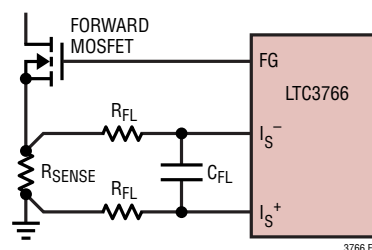

Figure 11. Using a Current Sense Resistor
When using a current sense resistor, the I_S^+ and I_S^- pins operate differentially and the maximum peak current threshold is approximately 75mV. Normally, the current sense resistor is placed in the source of the forward MOSFET, as shown in Figure 11. Depending on PCB layout and the shielding of the traces going to the I_S^+ and I_S^- pins, it is sometimes necessary to add a small amount of filtering as shown in Figure 11. Typically, values of $R_{FL} = 100\Omega$ and $C_{FL} = 200\text{pF}$ to 1nF will provide adequate filtering of noise pickup without substantially affecting the current loop response.
1. The accuracy of the current sense resistor and/or current sense transformer. For resistor sensing, the accuracy of the current sense resistor is normally 1%. For sense resistors less than $2m\Omega$, however, the parasitic inductance can cause a significant error in the sensed current. This error can be eliminated by adding an RC filter as shown in Figure 11.